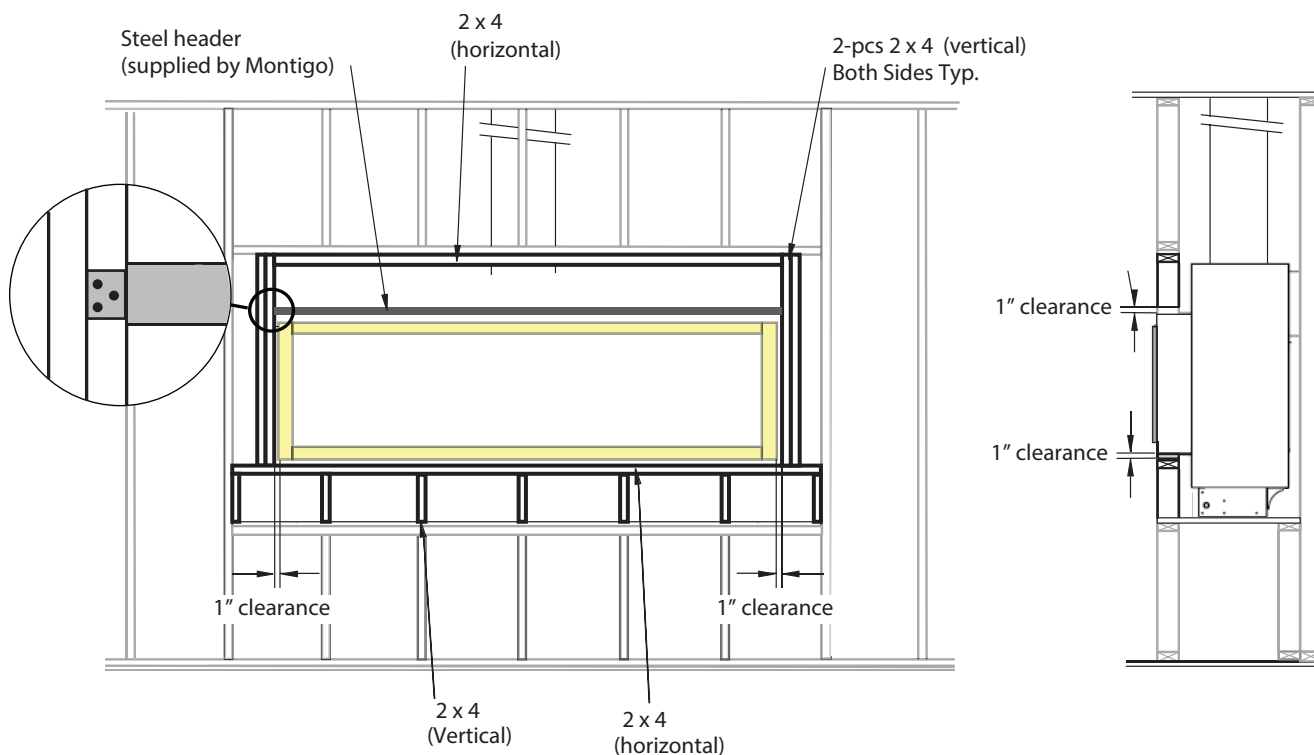

Figure 5. Completed back frame Fireplace installation
- Step 4).** Install supplied steel header 1" above the throat. Attach steel header to vertical 2x4's as shown in **figure 5**.